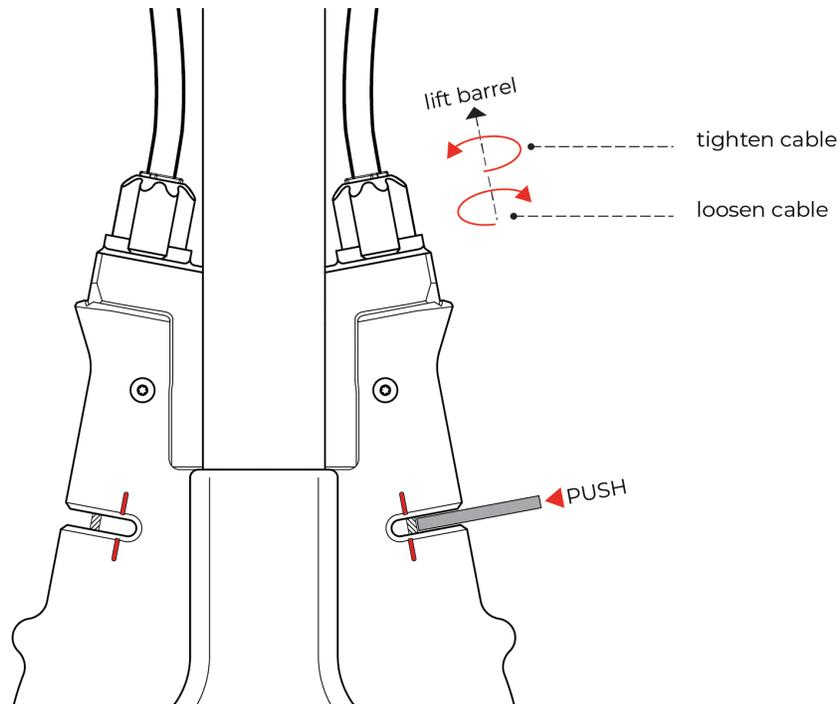

Figure 12. Checking and adjusting cable tension
- To tighten the cables, lift the barrel adjusters then turn counter-clockwise, adjusters are located at the top of the pulley covers. (Figure 12)